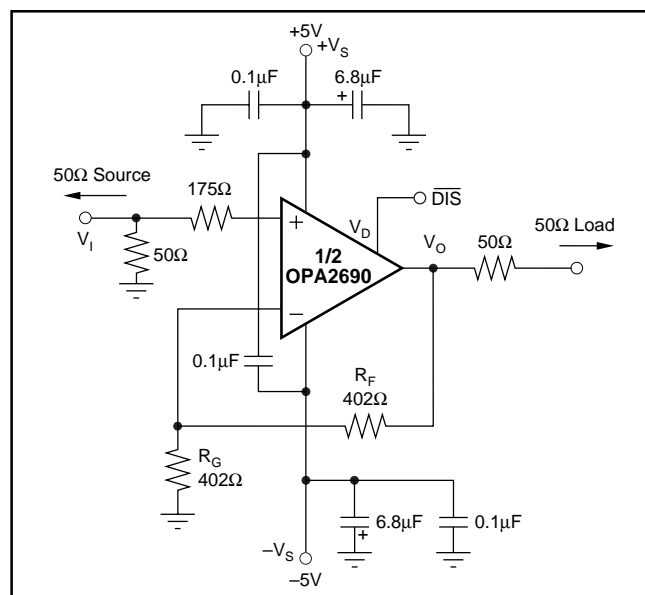
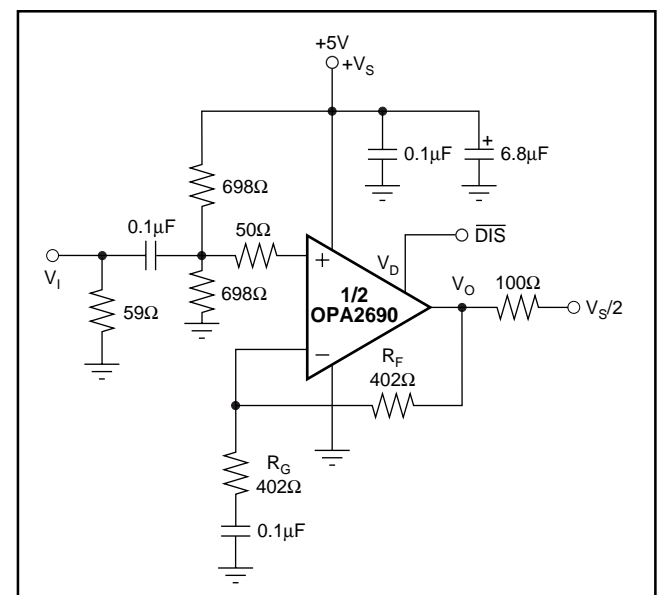
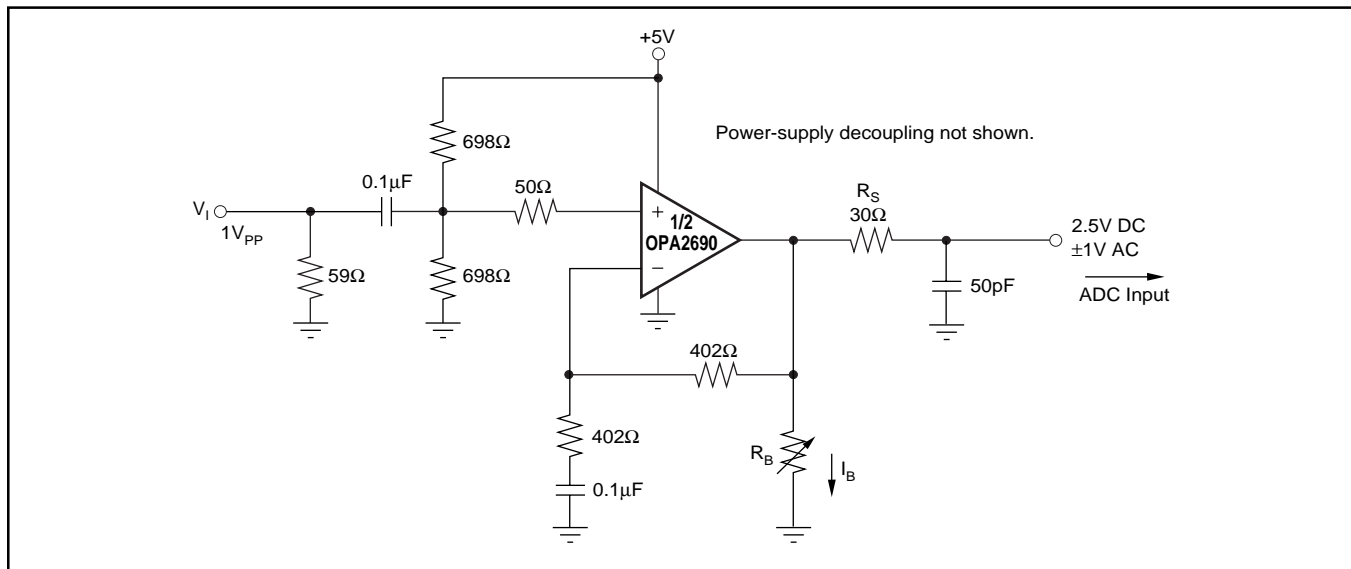
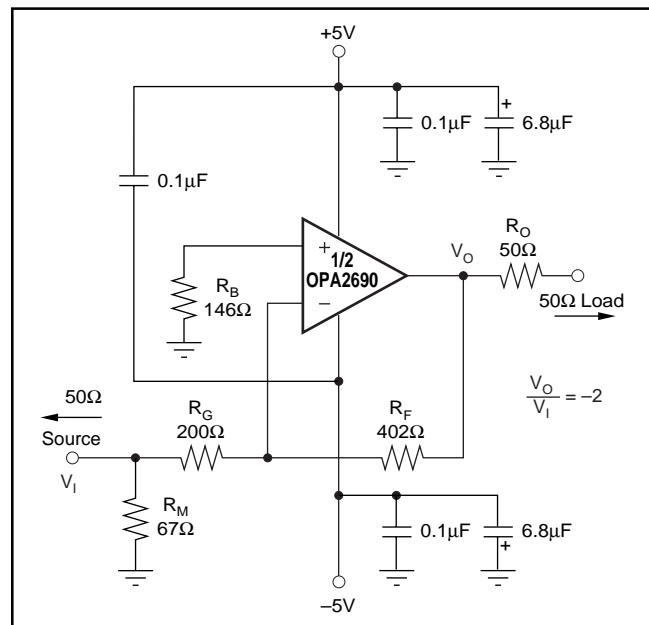

FIGURE 1. DC-Coupled,  $G = +2$ , Bipolar Supply, Specification and Test Circuit.
FIGURE 2. AC-Coupled,  $G = +2$ , Single-Supply Specification and Test Circuit.
FIGURE 3. Single-Supply ADC Input Driver. One of two channels.
FIGURE 12. Gain of -2 Example Circuit.
$R_F = 402\Omega$ ,  $R_L = 100\Omega$  to  $V_S/2$ , and  $G = +2$  (see Figure 2 for AC performance only), unless otherwise noted.
At  $T_A = +25^\circ C$ ,  $G = +2$ ,  $R_F = 402\Omega$ , and  $R_L = 100\Omega$  (see Figure 1 for AC performance only), unless otherwise noted.
At  $T_A = +25^\circ C$ ,  $G = +2$ ,  $R_F = 402\Omega$ , and  $R_L = 100\Omega$  (see Figure 2 for AC performance only), unless otherwise noted.
Figure 1 shows the DC-coupled, gain of +2, dual power-supply circuit configuration used as the basis of the  $\pm 5\text{V}$  Electrical and Typical Characteristics. This is for one channel; the other channel is connected similarly. For test purposes, the input impedance is set to 50 $\Omega$  with a resistor to ground and the output impedance is set to 50 $\Omega$  with a series output resistor. Voltage swings reported in the electrical characteristics are taken directly at the input and output pins, whereas output powers (dBm) are at the matched 50 $\Omega$  load. For the circuit of Figure 1, the total effective load will be 100 $\Omega$  || 804 $\Omega$ . The disable control line (SO-14 package only) is typically left open for normal amplifier operation. Two optional components are included in Figure 1. An additional resistor (175 $\Omega$ ) is included in series with the noninverting input. Combined with the 25 $\Omega$
Figure 2 shows the AC-coupled, gain of +2, single-supply circuit configuration used as the basis of the +5V Electrical and Typical Characteristics. Though not a rail-to-rail design, the OPA2690 requires minimal input and output voltage headroom compared to other very wideband voltage-feedback op amps. It will deliver a 3Vp-p output swing on a single +5V supply with > 150MHz bandwidth. The key requirement of broadband single-supply operation is to maintain input and output signal swings within the usable voltage ranges at both the input and the output. The circuit of Figure 2 establishes an input midpoint bias using a simple resistive divider from the +5V supply (two 698 $\Omega$  resistors). Separate bias networks would be required at each input. The input signal is then AC-coupled into the midpoint voltage bias. The input voltage can swing to within 1.5V of either supply pin, giving a 2Vpp input signal range centered between the supply pins. The input impedance matching resistor (59 $\Omega$ ) used for testing is adjusted to give a 50 $\Omega$  input load when the parallel combination of the biasing divider network is included. Again, an additional resistor (50 $\Omega$  in this case) is included directly in series with the noninverting input. This minimum recommended value provides part of the DC source resistance matching for the noninverting input bias current. It is also used to form a simple parasitic pole to roll off the frequency response at very high frequencies (> 500MHz) using the input parasitic capacitance. The gain resistor ( $R_G$ ) is
Most modern, high-performance ADCs (such as the ADS8xx and ADS9xx series from Texas Instruments) operate on a single +5V (or lower) power supply. It has been a considerable challenge for single-supply op amps to deliver a low distortion input signal at the ADC input for signal frequencies exceeding 5MHz. The high slew rate, exceptional output swing, and high linearity of the OPA2690 make it an ideal single-supply ADC driver. The circuit on the front page shows one possible interface particularly suited to differential I/O, AC-coupled requirements. Figure 3 shows the AC-coupled test circuit of Figure 2 modified for a capacitive (ADC) load and with an optional output pull-down resistor ( $R_B$ ). This circuit would be suitable to dual-channel ADC driving with a single-ended I/O.
The OPA2690 in the circuit of Figure 3 provides > 200MHz bandwidth for a  $2V_{PP}$  output swing. Minimal 3rd-harmonic distortion or 2-tone, 3rd-order intermodulation distortion will be observed due to the very low crossover distortion in the OPA2690 output stage. The limit of output Spurious-Free Dynamic Range (SFDR) will be set by the 2nd-harmonic distortion. Without  $R_B$ , the circuit of Figure 3 measured at 10MHz shows an SFDR of 57dBc. This can be improved by pulling additional DC bias current ( $I_B$ ) out of the output stage through the optional  $R_B$  resistor to ground (the output midpoint is at 2.5V for Figure 3). Adjusting  $I_B$  gives the improvement in
A good rule of thumb is to target the parallel combination of  $R_F$  and  $R_G$  (see Figure 1) to be less than approximately 300Ω. The combined impedance  $R_F \parallel R_G$  interacts with the inverting input capacitance, placing an additional pole in the feedback network and thus, a zero in the forward response. Assuming a 2pF total parasitic on the inverting node, holding  $R_F \parallel R_G < 300\Omega$  will keep this pole above 250MHz. By itself, this constraint implies that the feedback resistor  $R_F$  can increase to several kΩ at high gains. This is acceptable as long as the pole formed by  $R_F$  and any parasitic capacitance appearing in parallel is kept out of the frequency range of interest.
OPA2690 is compensated to give a slightly peaked response in a noninverting gain of 2 (see Figure 1). This results in a typical gain of +2 bandwidth of 220MHz, far exceeding that predicted by dividing the 300MHz GBP by 2. Increasing the gain will cause the phase margin to approach 90° and the bandwidth to more closely approach the predicted value of (GBP/NG). At a gain of +10, the 30MHz bandwidth shown in the Electrical Characteristics agrees with that predicted using the simple formula and the typical GBP of 300MHz.
The frequency response in a gain of +2 may be modified to achieve exceptional flatness simply by increasing the noise gain to 2.5. One way to do this, without affecting the +2 signal gain, is to add an 804Ω resistor across the two inputs in the circuit of Figure 1. A similar technique may be used to reduce peaking in unity gain (voltage follower) applications. For example, by using a 402Ω feedback resistor along with a 402Ω resistor across the two op amp inputs, the voltage follower response will be similar to the gain of +2 response of Figure 2. Reducing the value of the resistor across the op amp inputs will further limit the frequency response due to increased noise gain.
As the OPA2690 is a general-purpose, wideband voltage-feedback op amp, all of the familiar op amp application circuits are available to the designer. Inverting operation is one of the more common requirements and offers several performance benefits. Figure 12 shows a typical inverting configuration where the I/O impedances and signal gain from Figure 1 are retained in an inverting circuit configuration.
The second major consideration, touched on in the previous paragraph, is that the signal source impedance becomes part of the noise gain equation and influences the bandwidth. For the example in Figure 12, the  $R_M$  value combines in parallel with the external  $50\Omega$  source impedance, yielding an effective driving impedance of  $50\Omega \parallel 67\Omega = 28.6\Omega$ . This impedance is added in series with  $R_G$  for calculating the noise gain (NG). The resultant NG is 2.8 for Figure 12, as opposed to only 2 if  $R_M$  could be eliminated as discussed above. The bandwidth will, therefore, be slightly lower for the gain of  $-2$  circuit of Figure 12 than for the gain of  $+2$  circuit of Figure 1.